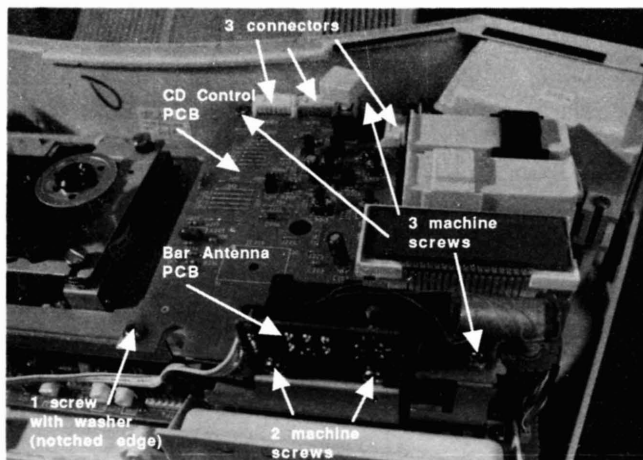

Figure 8
21. Bar Antenna PCB Removal (Figure 8)
22. Bar Antenna PCB Replacement (Figure 8)
23. CD Control PCB Removal (Figure 8)
24. CD Control PCB Installation (Figure 8)